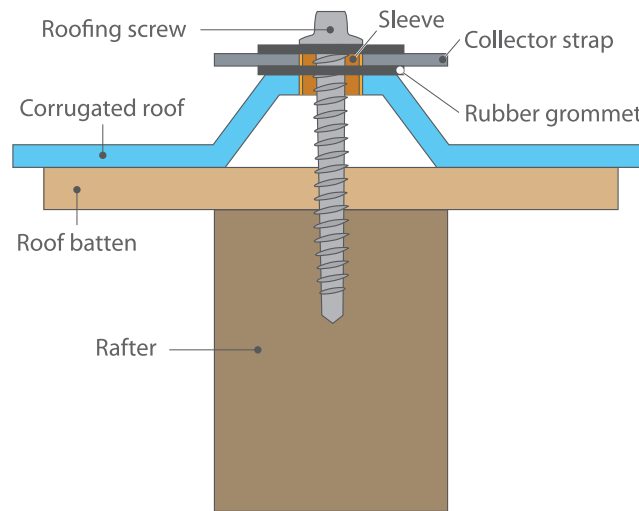

Figure 20: Galvanic Isolation Of Mounting Screw and Metal Roof
- Separation material or rubber pads should be used with the roofing screws to lift the metal frame off the roofing material to prevent galvanic corrosion between dissimilar metals (see Figure 20: Galvanic isolation of mounting screw and metal roof). All galvanically dissimilar metals need to be galvanically isolated. These include the mounting frame, collector frames, mounting support, roof brackets and the roof itself. Failure to do this can cause the roof and/or parts of the system to corrode.
Note: the support system is bolted through the roof material onto the rafters as required (refer figure 20).